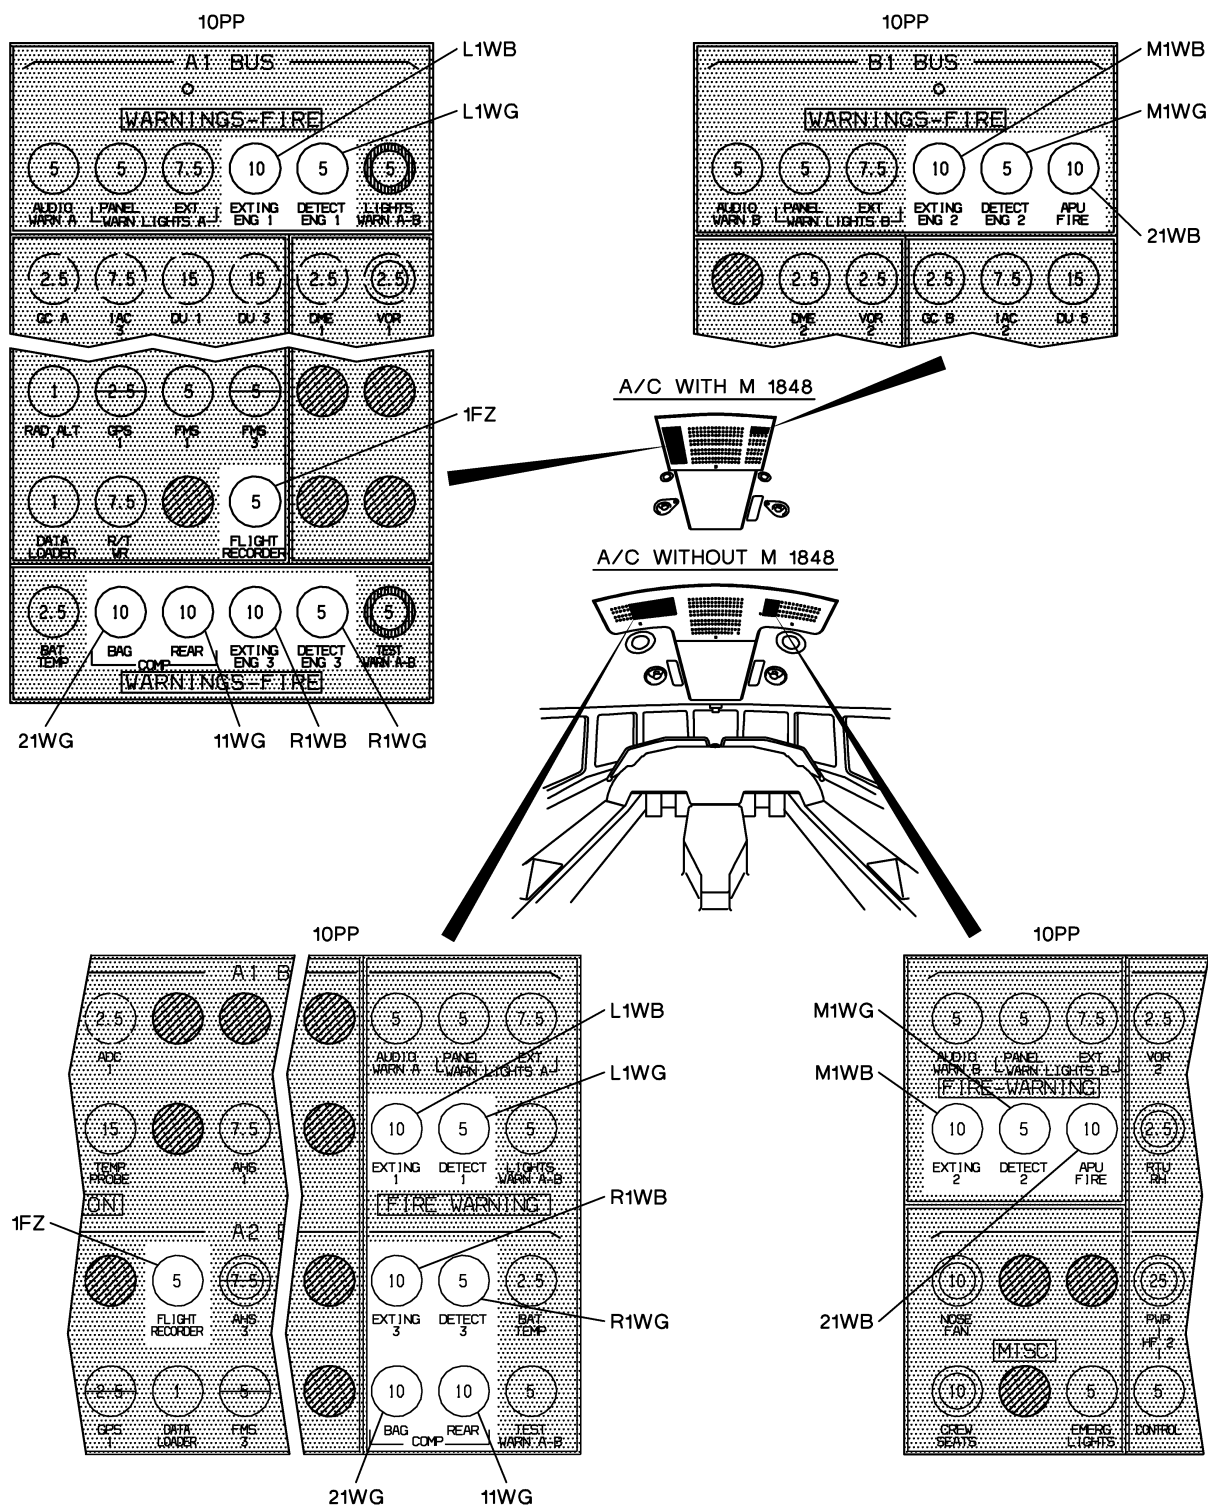

Figure 1: Location of Circuit Breakers
- (i) On circuit breaker panel (**10PP**), engage the following circuit breakers (**fig. 1**):